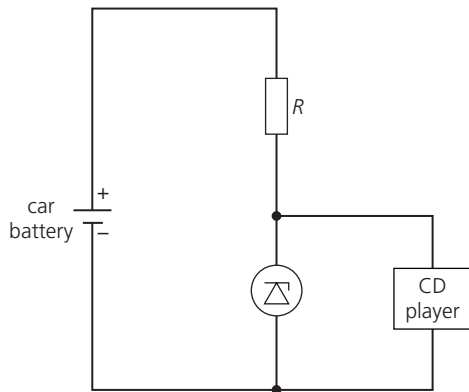

Figure 16
- a. The circuit would be as in Figure 16, with the car battery voltage as the input, and the CD player connected to the output from the Zener diode. The Zener breakdown voltage V_Z should be 6.0 V.